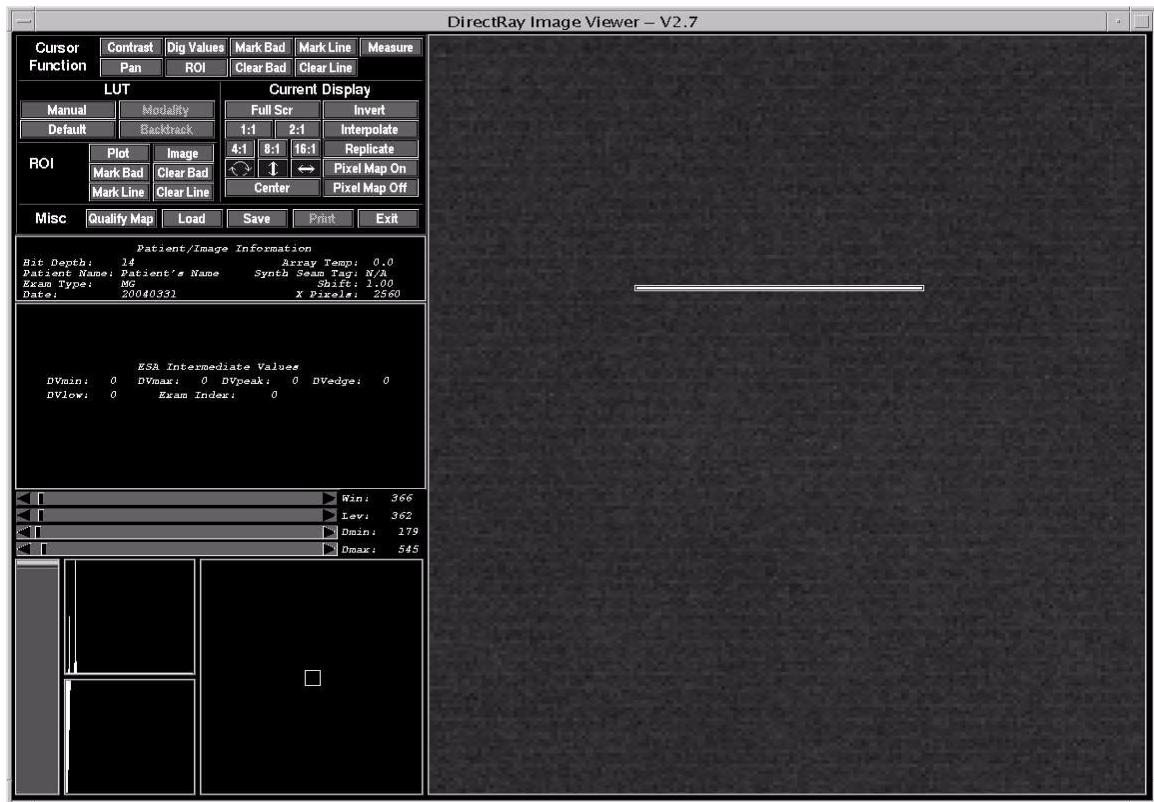
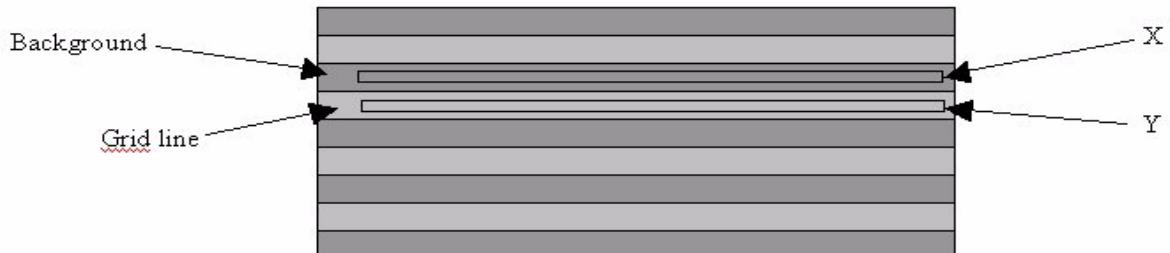

Fig. 1 Measure Grid Lines
Fig. 2 Measure Grid Lines zoomed
3. Select **ROI** and draw a rectangle on the "background" according to Fig. 1 and Fig. 2 (X). The rectangle should be approximately 5 mm long.
- Select **Image**, then make a new rectangle on a "grid line" according to Fig. 2 (Y). The rectangle should be approximately 5mm long.